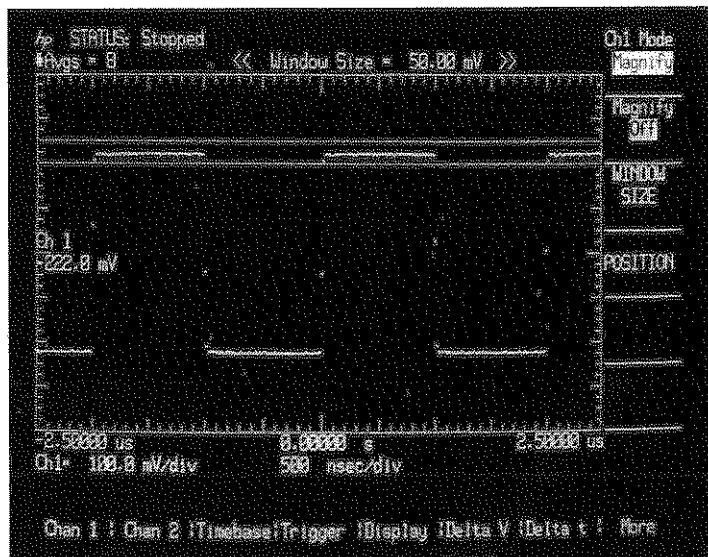

Figure 7-20. Magnify Window in the Normal Mode
6. Select the magnify mode and adjust the WINDOW SIZE and POSITION so that the window is near the top of the cal signal (see figure 7-20).